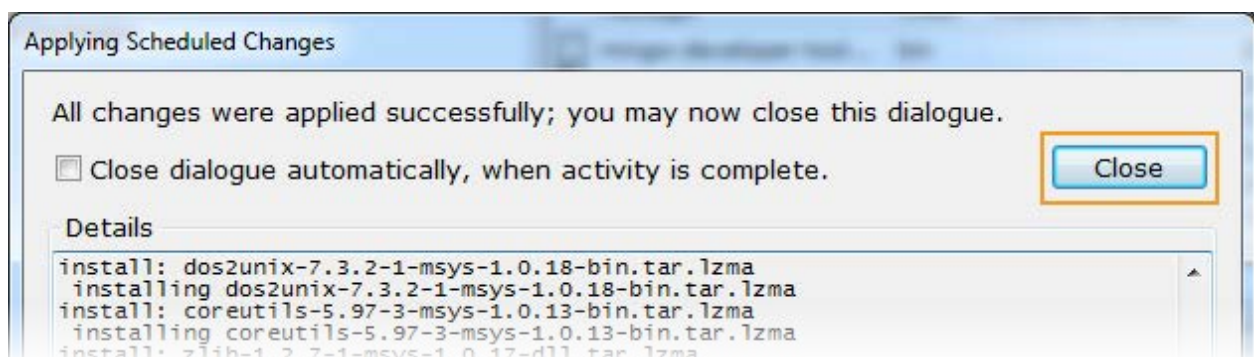

Figure 7. Applying scheduled changes
- 8) Click **Close** to close the dialog window once the operation is complete (see Figure 7).